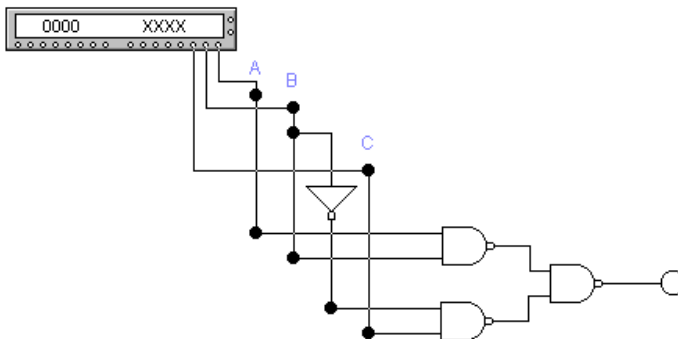

Figure 6.3 – Logic scheme
10. To the scheme connect the word generator (fig. 6.3), programmed to form 7 words, corresponding to numbers from 0 to 7: 0 = 000; 1 = 001; 2 = 010; 3 = 011; 4 = 100; 5 = 101; 6 = 110; 7 = 111.